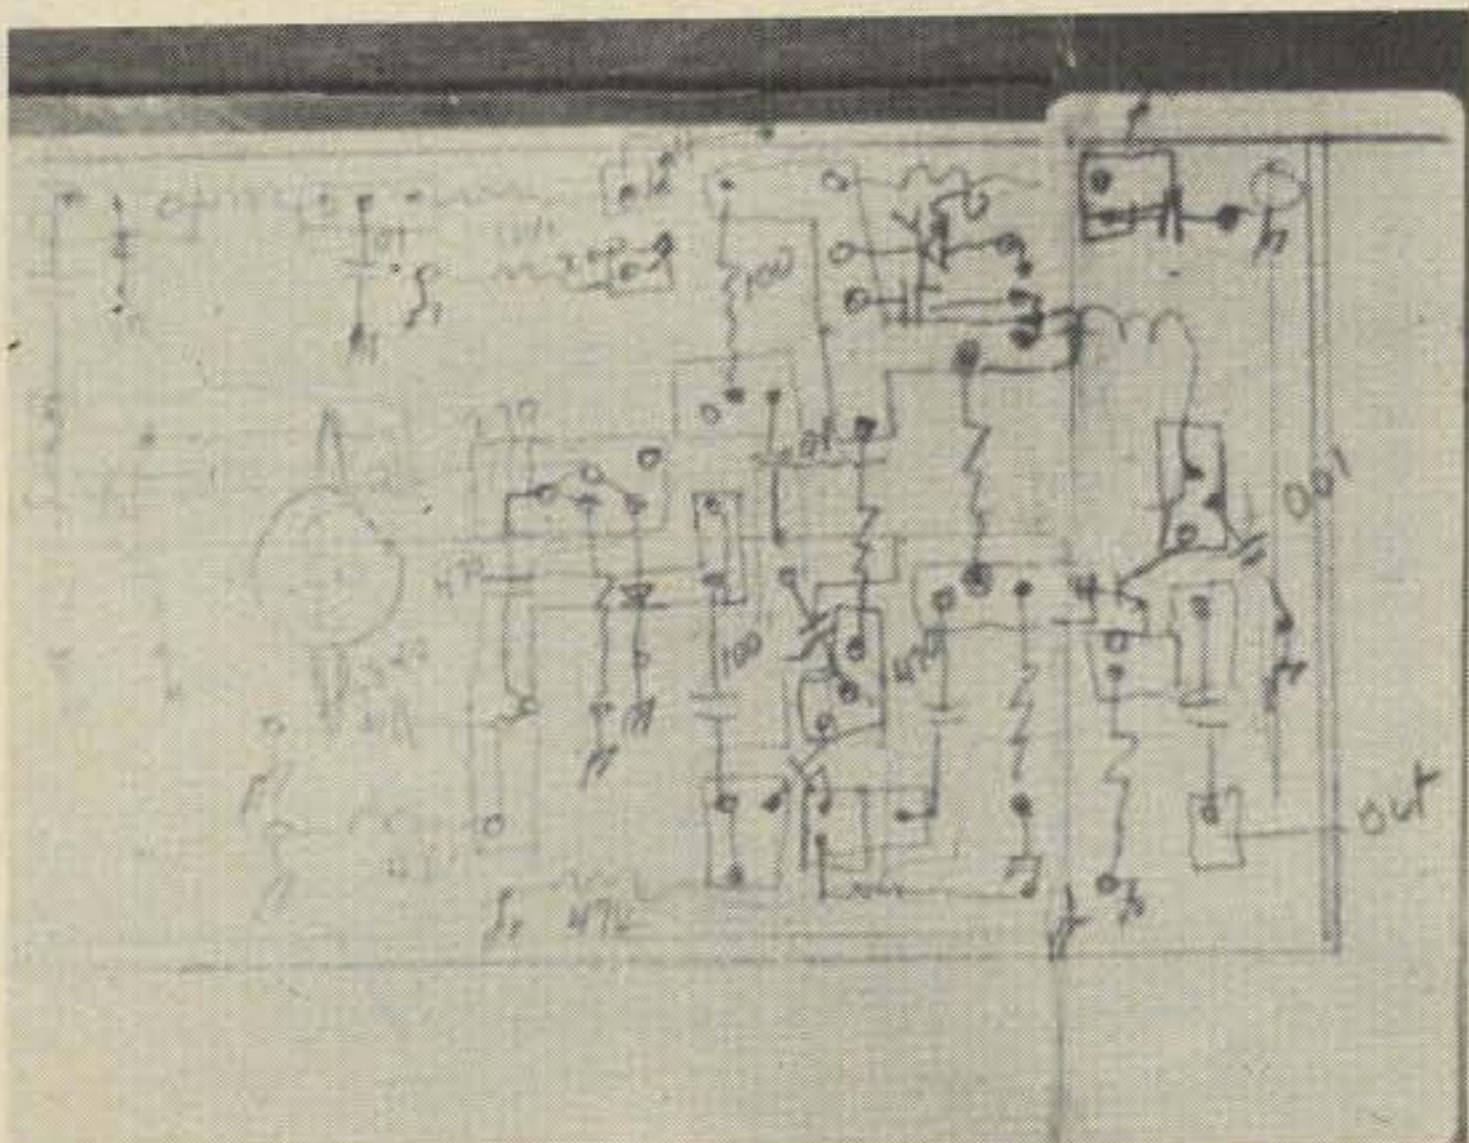

Fig. 3—Board with roughly sketched pads and parts locations.
2. Roughly sketch pad positions on the labels. This step requires fitting actual-size parts into place on the board, as is illustrated in fig. 2. As each part is added to the growing design, its exact connection point is marked on the board, and its schematic symbol drawn between the connection points. Inevitably, some erasing and rearranging will be required. As each complete set of common connections are added to the board, such as those at the regulated end of the B+ line, a pad can be roughly sketched onto the board. The product of this step is shown in fig. 3, with all the pads sketched in, connection points marked, and schematic symbols drawn in.